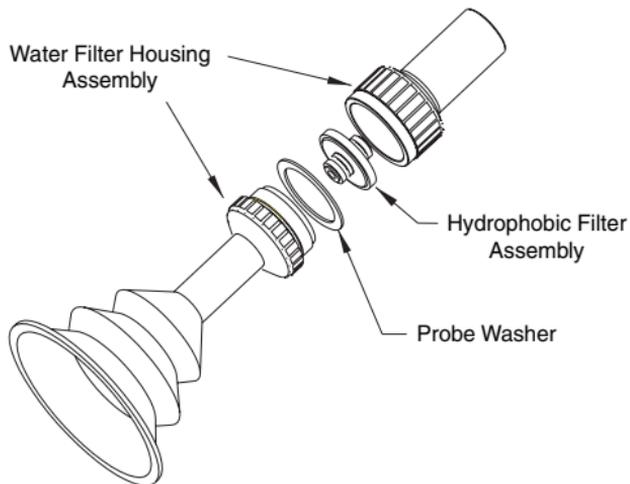

Fig. 5-8 Water Filter Assembly
1. Unscrew the filter assembly (Fig. 5-8).